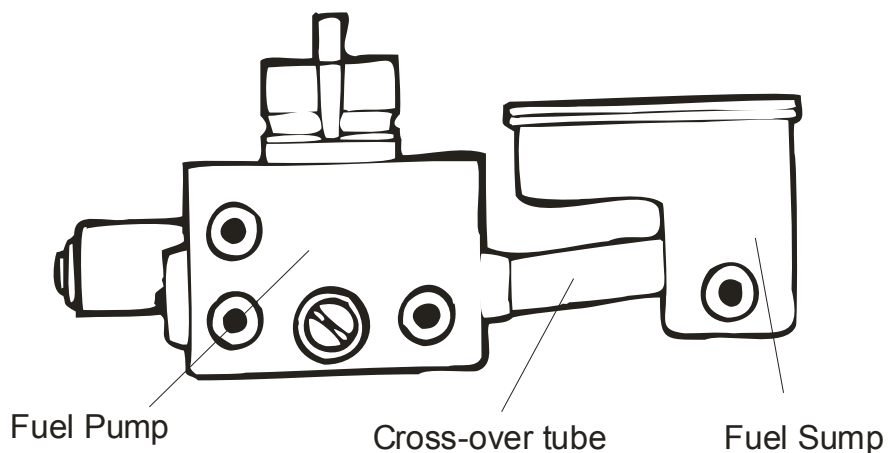

Figure 5-13 Fuel Pump/Fuel Sump Assembly
f. **Step 6.** Remove the four screws that hold the fuel sump to the lower fan housing using a flat tip screwdriver and slide the sump horizontally away from the pump to disengage the fuel cross-over tube from the sump pump (figure 5-13). Remove the sump.